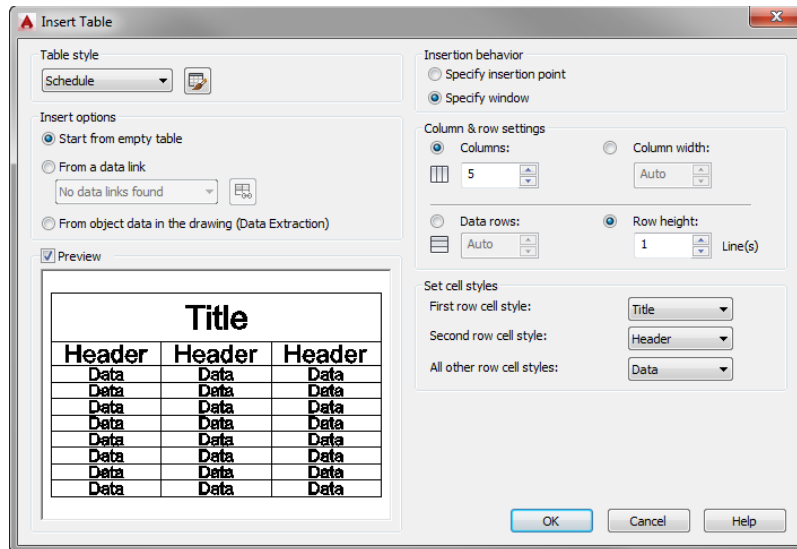

FIGURE 9.64: The Insert Table dialog box
3. In the Annotate tab's Tables panel, click the Table button to open the Insert Table dialog box (see Figure 9.64).